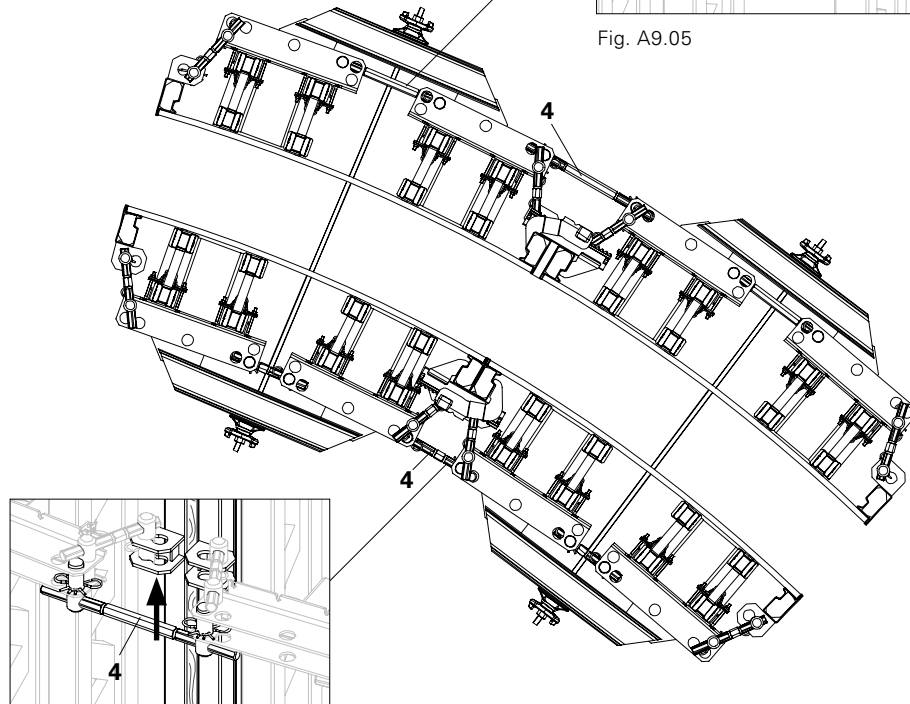

Fig. A9.06
1. Mount Adjusting Spindle 500 (4) on the external panel and Adjusting Spindle 210 (4) on the internal panel from below in the T-waler, and secure with cotter pins 5/1. (Fig. A9.06)